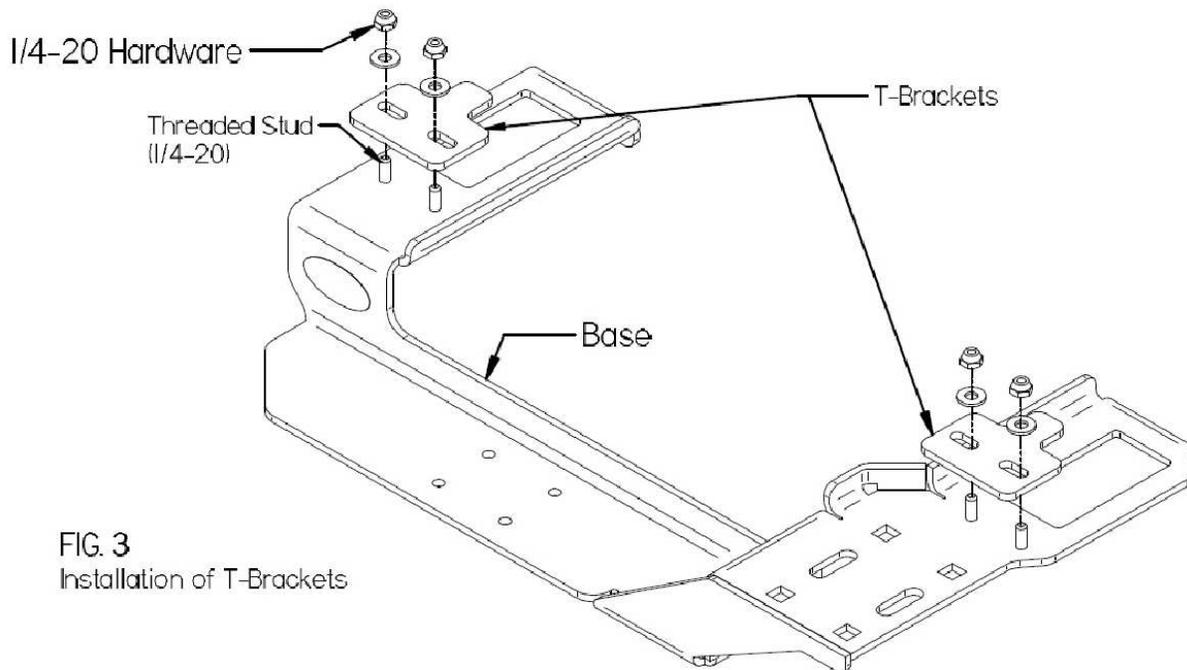

FIG. 3
6. With each of the two T-Brackets included, insert the small tab into the space between the "hooks." (see note from STEP 2) It will be necessary to insert the T-brackets at an angle, for there will be very little clearance between the seat frame and the threaded studs of the base. Use the included 1/4-20 Nylok nut (4X) and the 1/4 inch inner diameter flat washers (4X) to secure the T-brackets as shown in FIG 3.